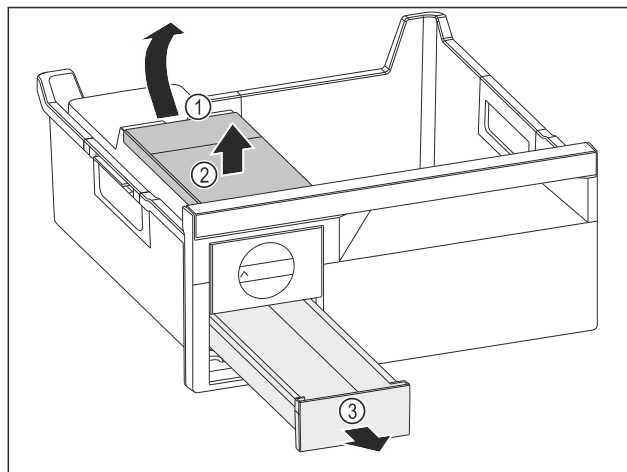

Fig. 142
- Removing the water tank: Lift the water tank by the recess Fig. 142 (1).
- Remove the water tank Fig. 142 (2) upwards.
- Remove the ice cube drawer Fig. 142 (3) to the front.